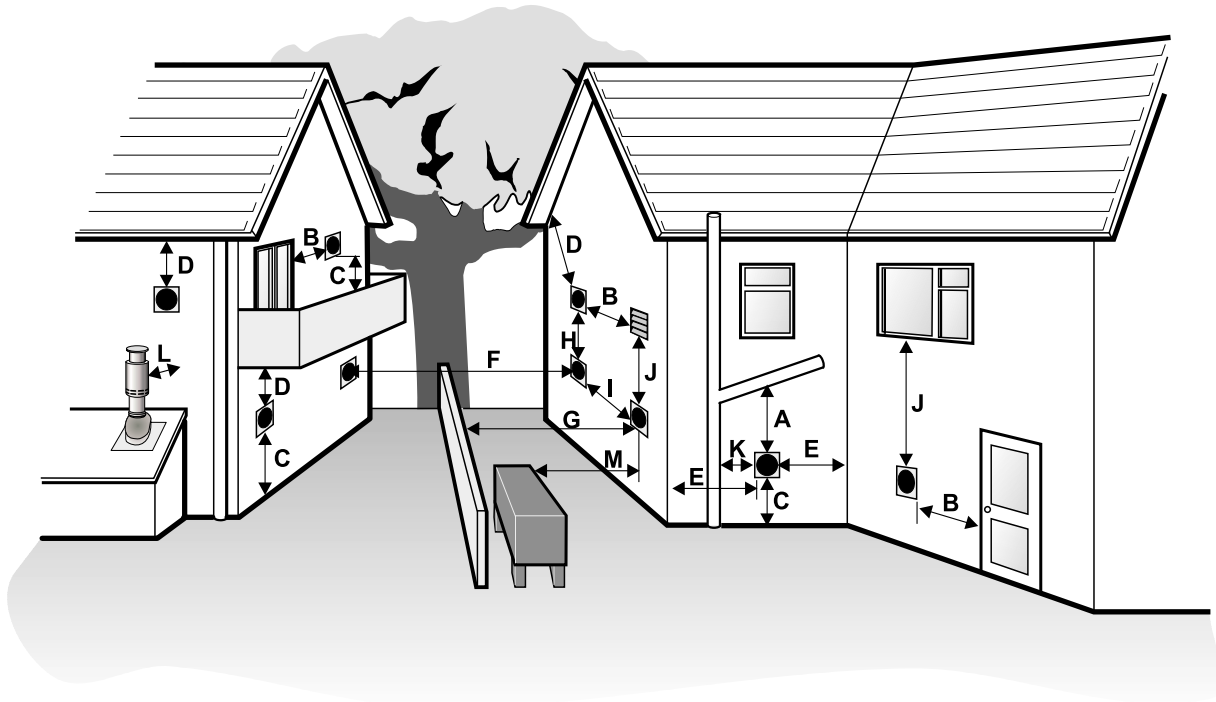

Fig. 10 - Clearances for Balanced flues
- 2 The flue terminal must be at least 600 mm from any opening into the building, and 600 mm above any vertical structure or wall less than a horizontal distance of 750 mm from the terminal. See Fig. 10.
- 2 The minimum clearances for positioning the flue terminal are shown in Fig. 10.